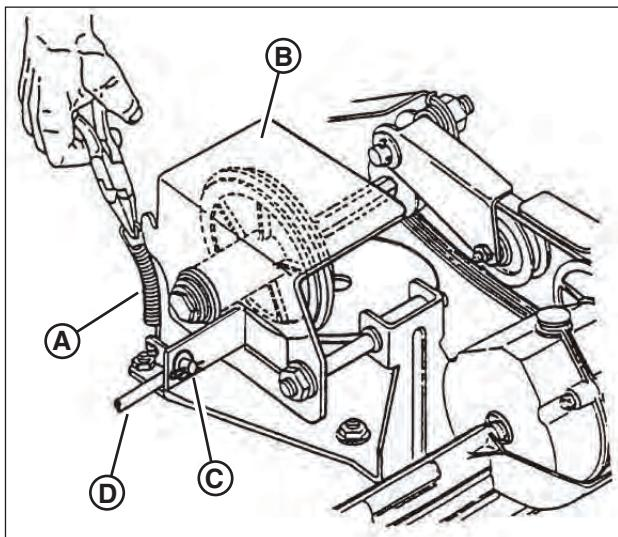

Figure 27: Adjusting the driven disc
2. Remove the driven disc spring (**A**, **Figure 27**) from the driven disc assembly (**B**). Also remove the pin and washer (**C**) from the transfer rod (**D**), and remove the end of the transfer rod from the hole in the driven disc assembly.
1. Remove the pin and washer (**C**, **Figure 27**) from the transfer rod (**D**), and remove the end of the transfer rod from the hole in the driven disc assembly.